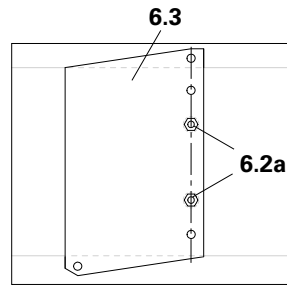
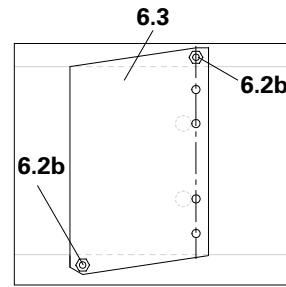
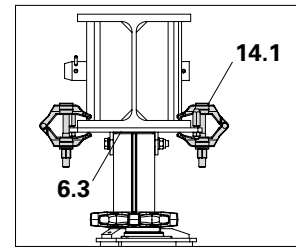

Fig. A6.19
Fig. A6.20
Fig. A6.21
- If the holes in the articulated head plate are outside the hole pattern (400 mm), fix the articulated head plates (6.3) first with the external centring bolts (6.2b), then secure each with two girder clamps (14.1). (Fig. A6.20 + Fig. A6.21)
- If the holes in the articulated head plate are within the hole pattern, first fix the articulated head plate with the centring bolts (6.2a), then secure with girder clamps (14.1). (Fig. A6.19 + Fig. A6.21)
4. Level the head spindles (6) of the primary prop to the specified dimension.
5. Spindle out the head spindles of the intermediate props up to the Main Beam HDT (14b). Fix laterally with centring bolts (6.2b). (Fig. A6.19 + Fig. A6.20)